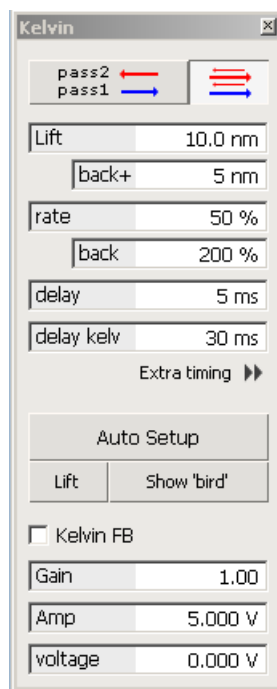

Figure 4.5.1 Kelvin mode control panel
- Select **Kelvin mode** from the list of the scanning modes to switch on the Kelvin Probe Force Microscopy technique. The KPFM control panel appears (fig. 4.5.1).